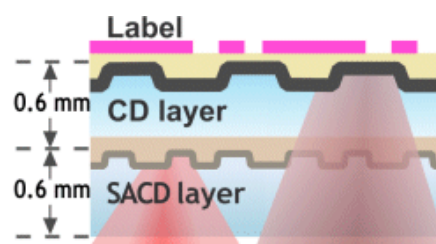

Figure 6 Hybrid SACD
**Hybrid SACD** was developed by Philips and Sony and combines an SACD (ie physically a DVD layer) with a CD layer (see Figure 6). Both layers are read from the same side, which means that the SACD layer must be reflective for the red laser but will transmit the infra red CD laser. Such discs can then be played on both a CD player (which will read the CD layer) and a SACD player.